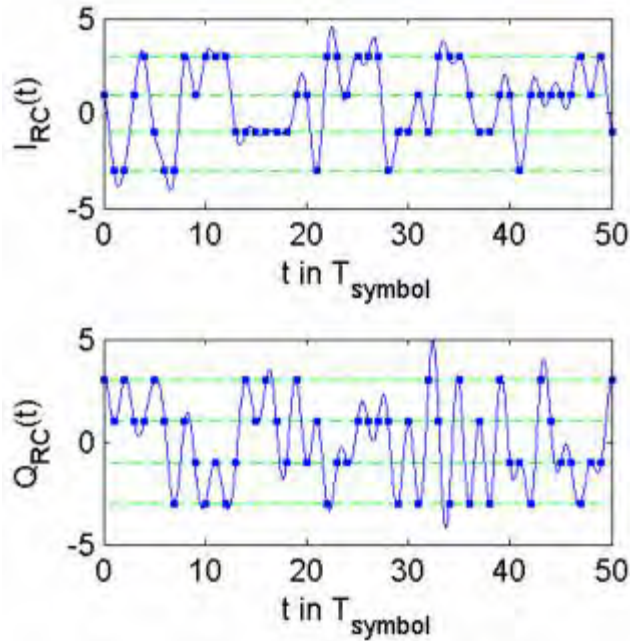

Fig. 2-42 Raised cosine filtered dirac signals $I_{RC}(t)$ and $Q_{RC}(t)$
We notice that the symbol instants (highlighted with squares) are not on the horizontal lines (possible symbols levels) anymore. This is due to the inter-symbol interference introduced by the root raised cosine TX filter. Contrary to the signal filtered with two root raised cosine filters (TX and RX) the one filtered with a single root raised cosine filter (TX) does not satisfy the condition for zero inter-symbol interference. Fig. 2-42 shows the signal obtained by filtering the dirac signals with two root raised cosine filters. The convolution of two root raised cosine filters is also called raised cosine filter. We observe that all symbol instants (highlighted with squares) of $I_{RC}(t)$ and $Q_{RC}(t)$ have exactly the same levels as the signals $I_{dirac}(t)$ and $Q_{dirac}(t)$ in Fig. 2-39. Please note, that the signals $I_{RC}(t)$ and $Q_{RC}(t)$ can only be observed in the receiver and only for a undistorted transmission. They have been mentioned here for explanatory reasons.